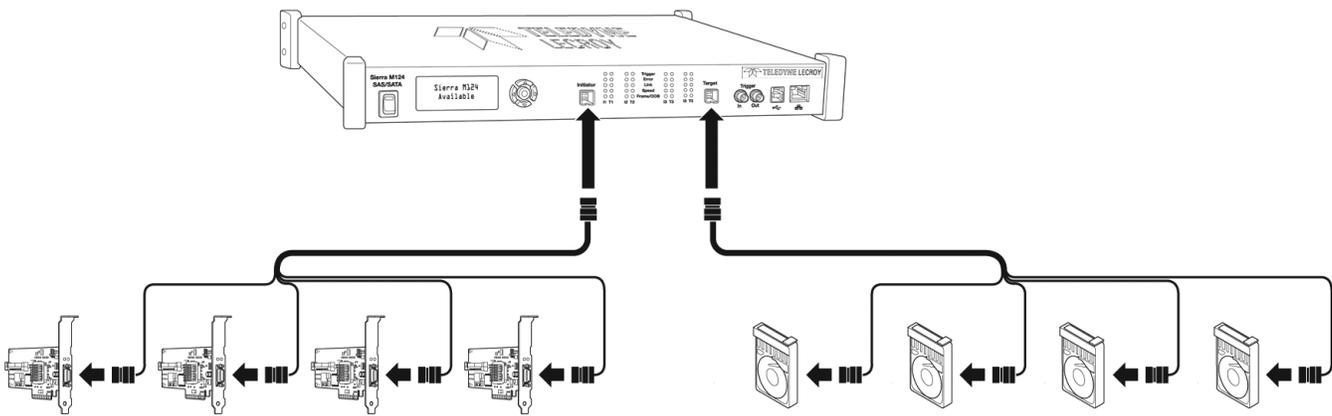

Figure 1.4: Analyzer Single Lane Connections
3. Connect the analyzer as shown in Figure 1.4.